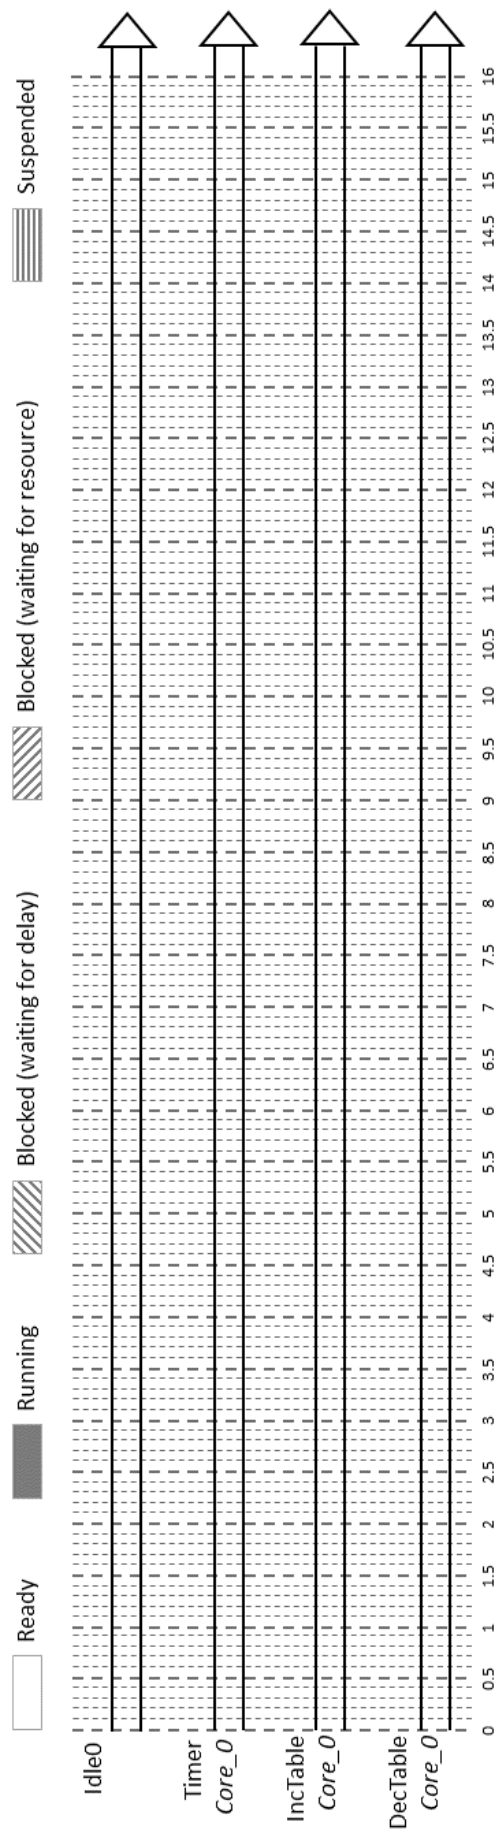

**FIGURE 3.2** – Scenario 1 : Priority( $DecTable=4$ ,  $IncTable=4$ ),  $Core(DecTable=0$ ,  $IncTable=0$ ).
**Scenario 1 :** Run the program, copy the console, trace in the figure 3.2 the behavior of the 3 tasks until 160 ticks and explain the problem.